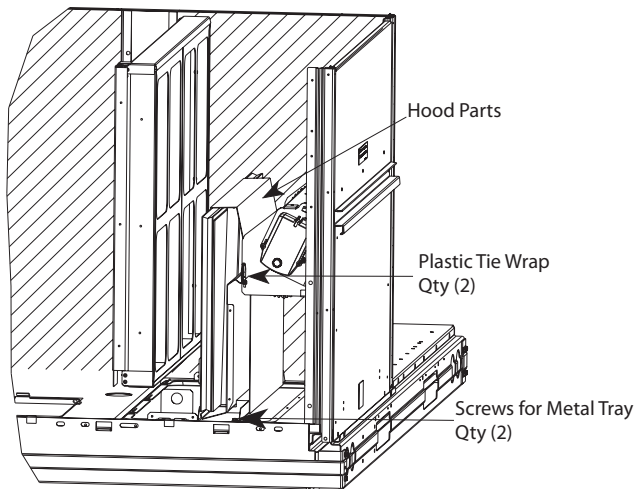

Fig. 9 - Economizer Hood Parts Location
Locate the carton containing the outside air hood parts; see Fig. 9. Do not remove carton until unit has been rigged and located in final position.
3. Locate the (2) screws holding the metal tray to the basepan and remove. Locate and cut the (2) plastic tie-wraps securing the assembly to the damper. (See Fig. 9.) Be careful to not damage any wiring or cut tie-wraps securing any wiring.